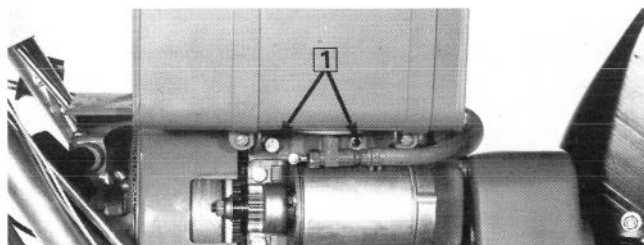

Figure 6
10. Remove two self tapping screws securing bottom of fuel tank bracket to engine (screws to be used later in assembly)(Fig. 6).